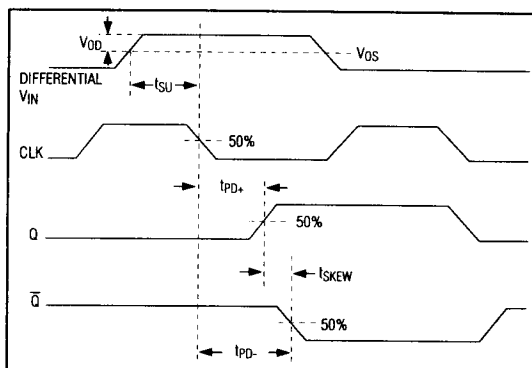

Figure 1. Timing Diagram
- Note 6:** Guaranteed by design. Measured in a high-speed fixture with CL = 15pF, IQ = 2mA. See Figure 1 for timing parameter definitions. Guaranteed for both single- and dual-supply operation.
- Note 8:** Propagation delay skew is defined as the difference in tPD for the complementary outputs, Q and Q̄ (see Figure 1).